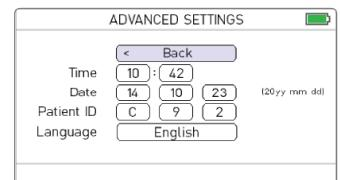

Figure 45. Advanced Settings
2. Press to access ADVANCED SETTINGS (See Figure 45). Here you can adjust the Time, Date, Patient ID and Language.
1. In ADVANCED SETTINGS (See Figure 45) Select Time.
1. In ADVANCED SETTINGS (See Figure 45) Select Date.
1. In ADVANCED SETTINGS (See Figure 45) Select Patient ID.
1. In ADVANCED SETTINGS (See Figure 45) Select Language.